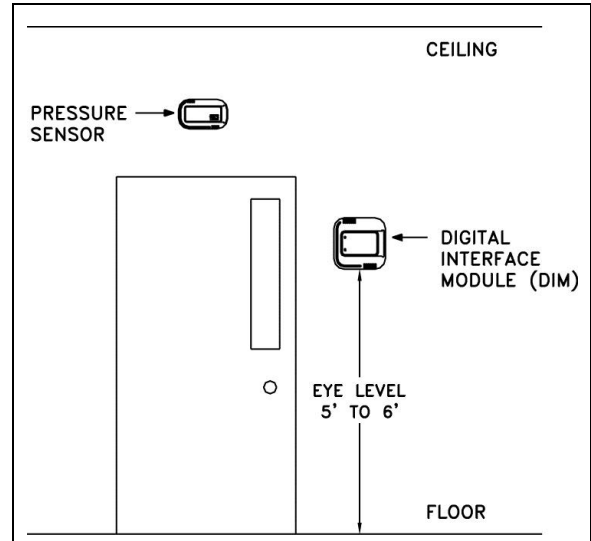

Figure 3: Pressure Sensor and DIM Typical Installation
The pressure sensor (P/N 800326) is typically installed above the main entrance to the laboratory (Figure 3).
1. Determine pressure sensor location (Figures 3 and 4). Pressure sensor typically mounts in the reference space, and the dummy housing mounts in the laboratory.